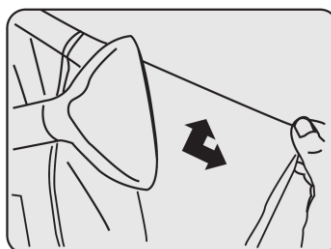

Fig.12
- When ironing the cloth sleeve, please straighten the sleeve a little hard. The steam nozzle should be longer pressed on the sleeve folding of the sleeve for a little longer and steam pressed back and forth. (See Fig.12)